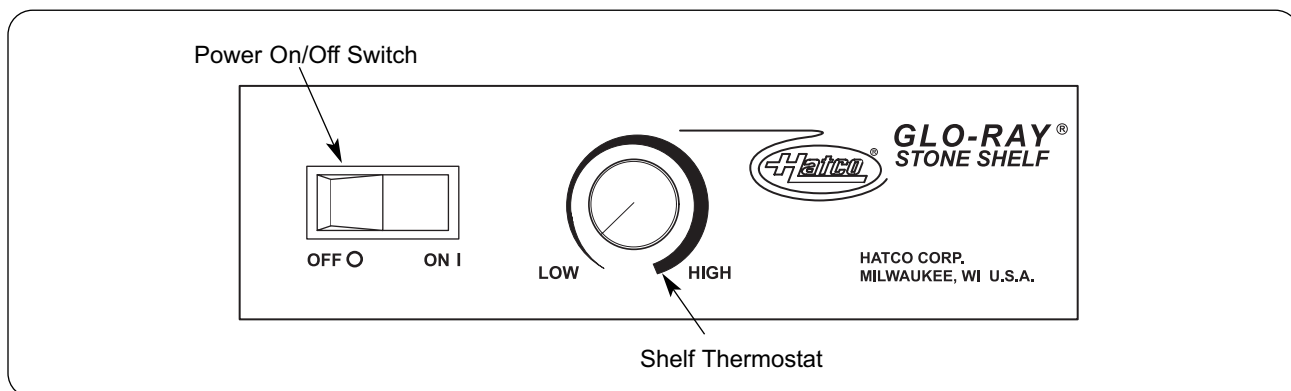

Figure 8. Control Panel
2. Place the Power Switch in the ON position. See Figure 8.